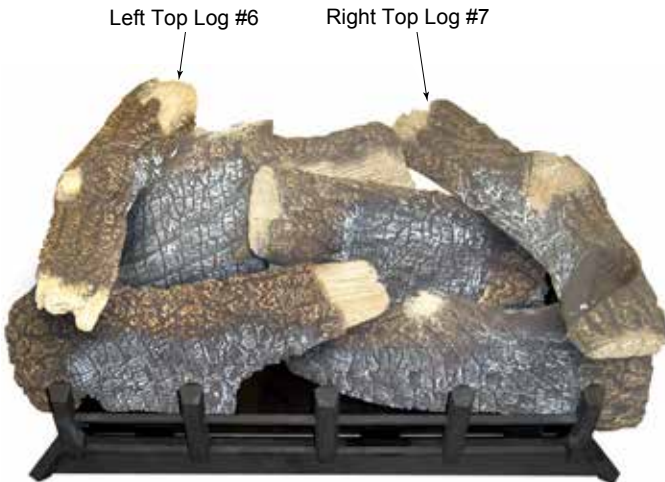

Figure 25
- Place top left log (#6) on left rear log (#4) and left front log (#5) using locating grooves on bottom of #6 and locating blocks on logs #4 and #5. *Figure 25*
- Place right top log (#7) on right rear log (#3) and right front log (#2) using locators on the bottom of log #7 and locators on logs #2 and #3. *Figure 25*